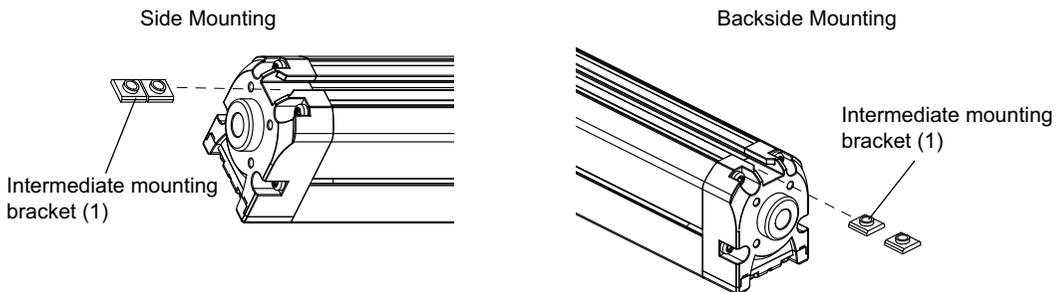

Figure 6
1. Insert the intermediate mounting brackets to the T-slot in the back side of the sensor, placing the protrusion of the intermediate mounting bracket (1) to the outside of the slot. (Figure 6)